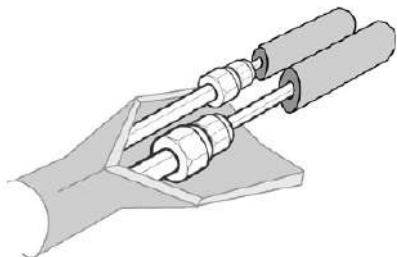

fig. 23 -
- The connection fitting of the indoor unit must be wrapped with thermal insulating material "fig. 23 -".